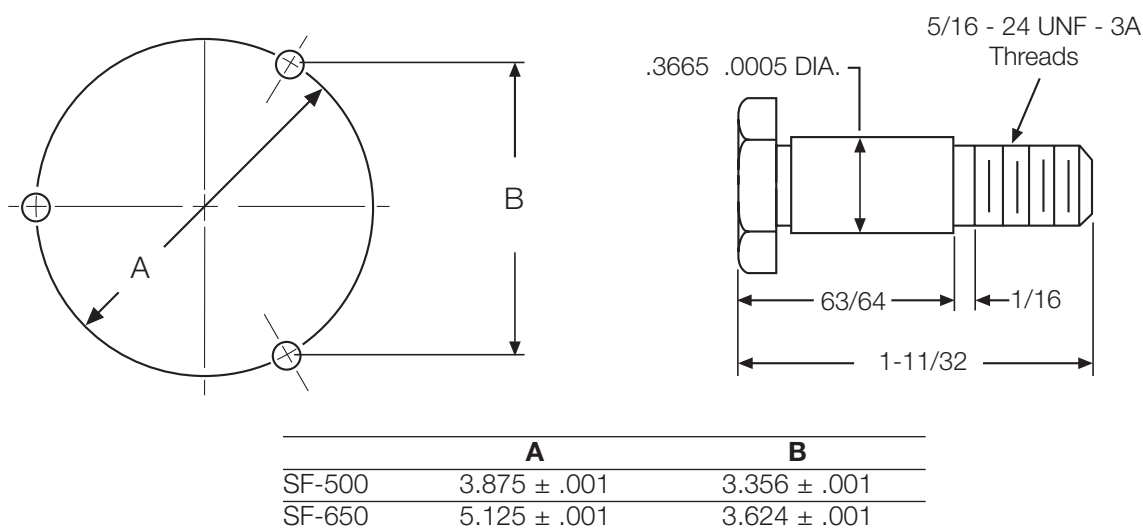

Figure 5
- b. Sleeve bearings (Oilite Bronze) with an I.D. of $.376 \pm .001$ must be provided in the holes of pulley or hub at the chordal and bolt circle dimensions shown below. (Figure 5)